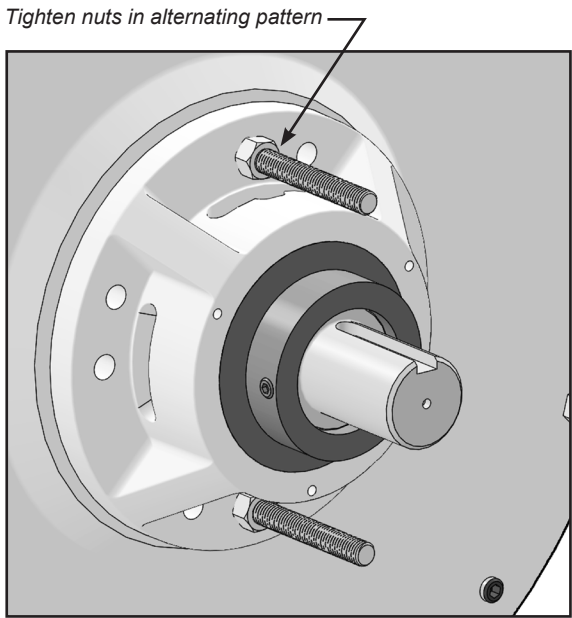

FIGURE 30
- 25. Using the all thread, tighten each nut in an alternating pattern to prevent binding using a deep socket (Figure 30).